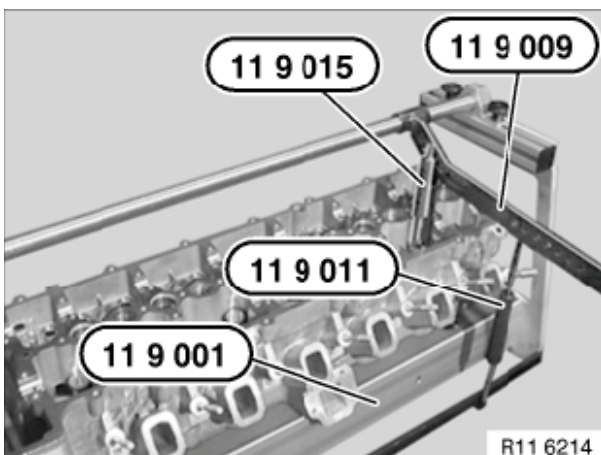

Figure 5-31
4. Secure cylinder head to special tool OEM No. 11 9 001 (**Figure 5-31**).
5. Install spring compressor OEM No. 11 9 015 on lever OEM No. 11 9 009 (**Figure 5-31**).
7. Press down to compress valve spring and lock in place with special tool OEM No. 11 9 011 (**Figure 5-31**).